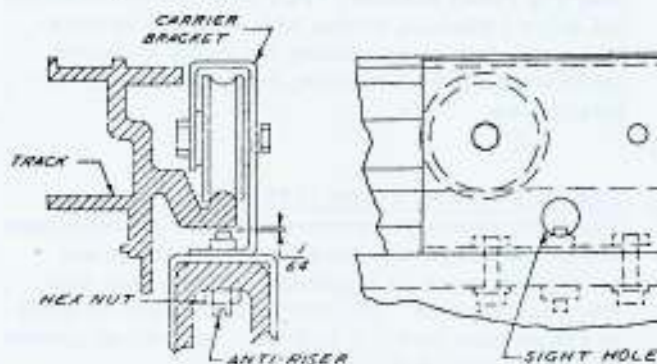

FIG. 20 Anti-Riser adjustment.
5. Check the clearance between the anti-riser (in the roller bracket) and the bottom of the rail (see FIG. 20). The clearance must be